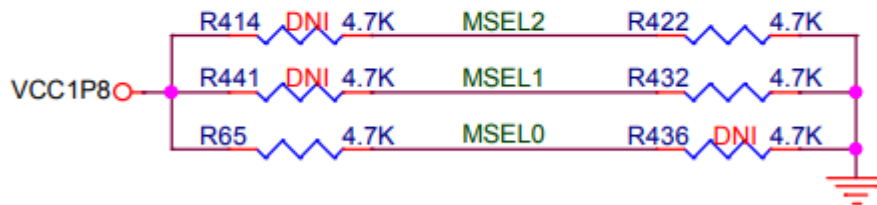

Figure 2-1 The MSEL pin setting
As shown in **Figure 2-1**, the mode select pin of the FPGA on the Apollo S10 board has been set to **Active Serial (AS) mode** using resistors. Thus, the Apollo S10 board supports the following configuration modes:
- Active Serial (AS) mode